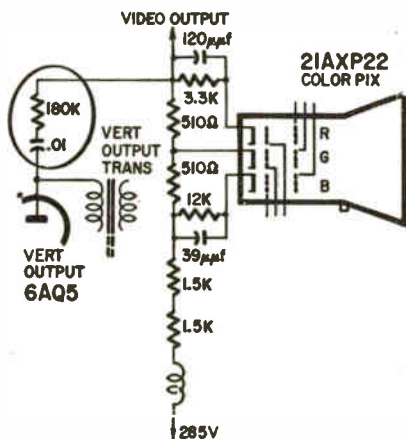
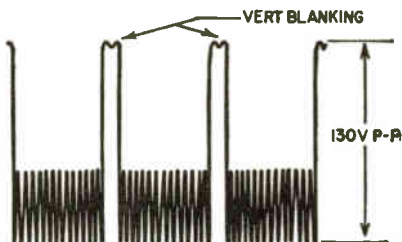

Fig. 911. Retrace blanking circuit of RCA chassis.
Fig. 912. Waveform on 21AXP22 cathodes.
**Service:** Vertical blanking in this series chassis is fed to the red cathode, and thence to the rest through the voltage divider (Fig. 911). Check for the vertical blanking spike at the red
cathode with a scope. With a normal picture, you ought to get something like Fig. 912. The vertical blanking pulses here should have an amplitude of 130 volts peak to peak. The blanking is fed through the R-C network shown in Fig. 911. If blanking pulses are missing, trace back to the plate of the 6AQ5, to see where the pulse is getting lost.